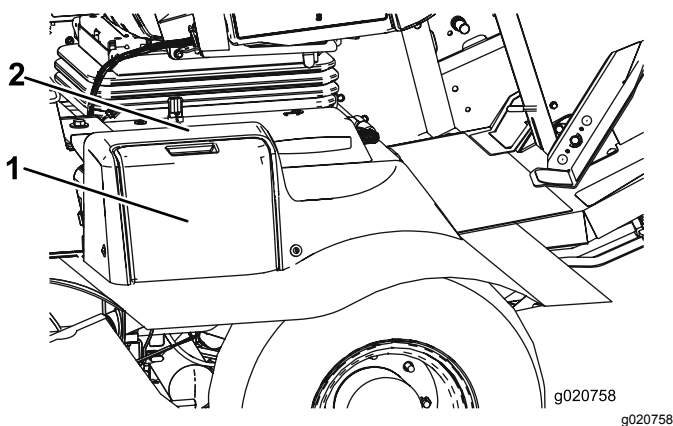

Figure 81
1. Open the battery cover (Figure 81). on the side of the shroud.
**Note:** Press down on the flat surface above the battery cover to ease cover removal (Figure 81).